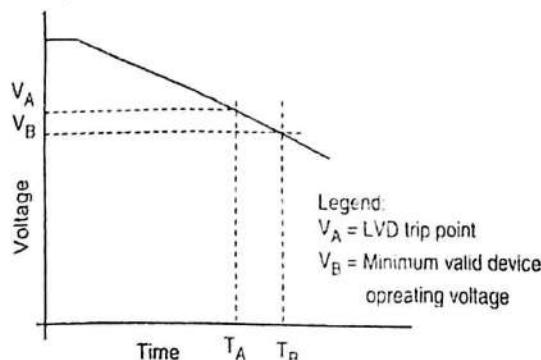

Fig. 1.12.3 : Example of voltage supply drop below the proper level
- Microcontroller is in a reset mode as long as PWRT is active. However, as device is working, problem arises when supply doesn't drop to zero but falls below the limit that doesn't guarantee microcontroller's proper functioning. This is a likely case in practice, especially in industrial environment where disturbances and instability of supply are an everyday occurrence. To solve this problem we need to make sure that microcontroller is in a reset state each time supply falls below the approved limit. Fig. 1.12.3 shows example of drop in supply below proper level.